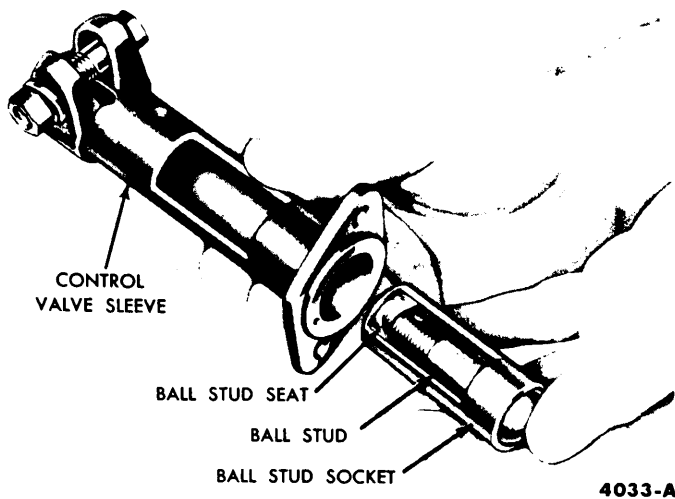

FIG. 12—Ball Stud Seat, and Socket Installation
2. Place the socket in the control valve sleeve so that the threaded end of the ball stud can be pulled out through the slot in the sleeve (Fig. 12).